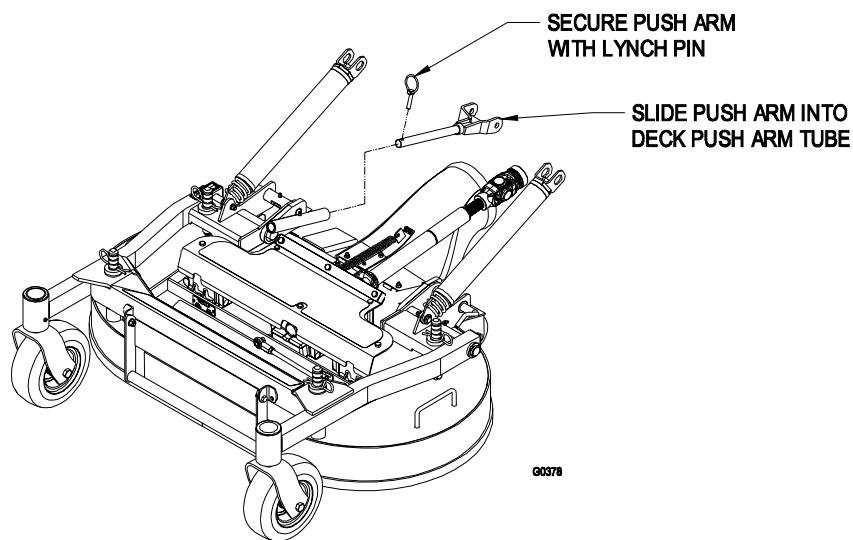

FIGURE 2
- d) Align deck push arm tubes to tractor push arms and push deck rearward. Secure push arms with lynch pins on left and right sides of the unit. See Figure 2.
- f) Remove lynch pins at front of push arms on both sides of the unit. See Figure 2.